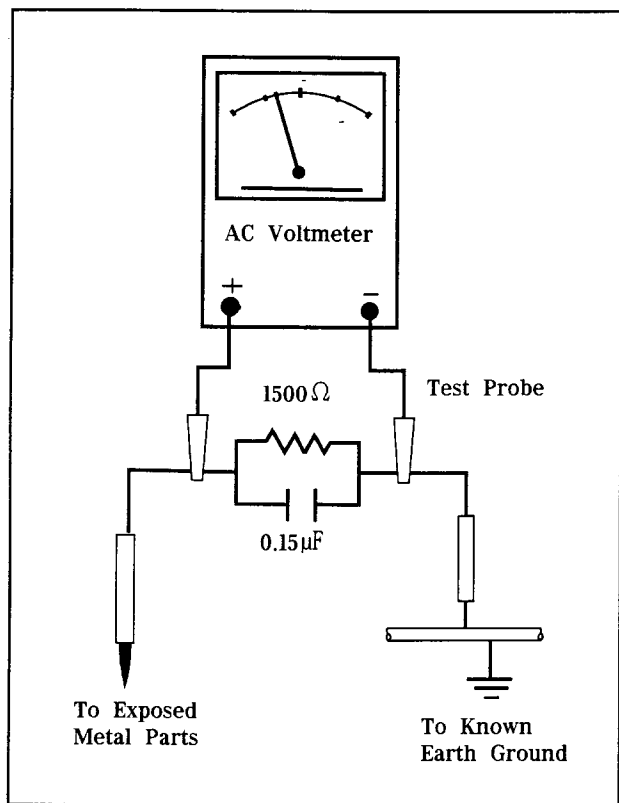

Figure 1-1. Leakage Current Test Circuit
- c. Use a SSVM or VOM with 1000 ohms per-volt or higher sensitivity to measure the AC voltage drop across the resistor (see Figure 1-1).